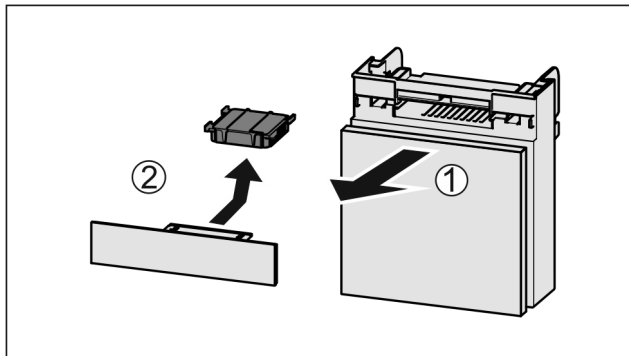

Fig. 74
- ▶ Pull out the compartment Fig. 74 (1).
- ▶ Remove the carbon filter Fig. 74 (2).